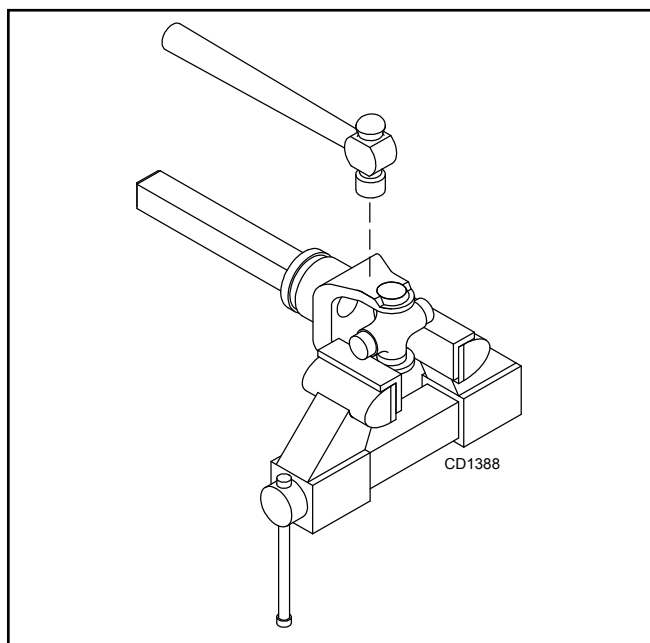

Figure 27. Remove Bearing Cups
4. Place universal cross in vise as shown in Figure 27 and tap on yoke to remove cup. Repeat Step 3 for final removal. Drive remaining cup out with a drift and hammer.